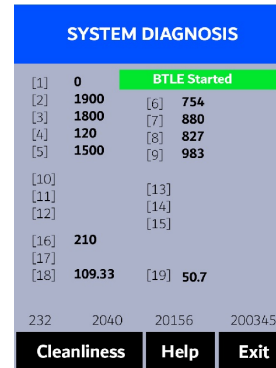

Figure 17.
Press **Diagnosis** () to launch the **SYSTEM DIAGNOSIS** screen where raw measurement data are displayed (Figure 17). The information has no use for normal operation, but instead is used for device troubleshooting. Provide an image of both the **DEVICE INFORMATION** screen and the **SYSTEM DIAGNOSIS** screen when you contact Pyxis (service@pyxis-lab.com) for troubleshooting your device or call +1 (866) 203-8397.
4. Allow 5–10 seconds for the message in the top-right corner of the display change from **Starting BTLE...** to **BTLE Started** (Figure 17).